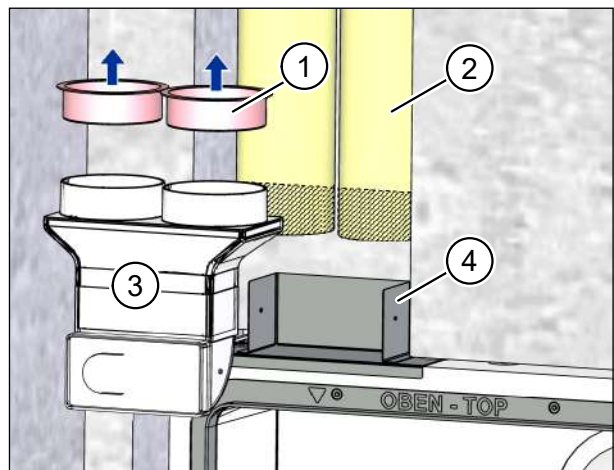

Fig. 22: Cutting flexible pipes to length
- ▶ Remove the red protective cover (item 1 in Fig. 22) from the flexible pipe connection (item 3 in Fig. 22).
- ▶ Shorten the flexible pipes (item 2 in Fig. 22) so that the flexible pipe connection (item 3 in Fig. 22) with the flexible pipes inserted can be pushed easily into the fixing plate (item 4 in Fig. 22).